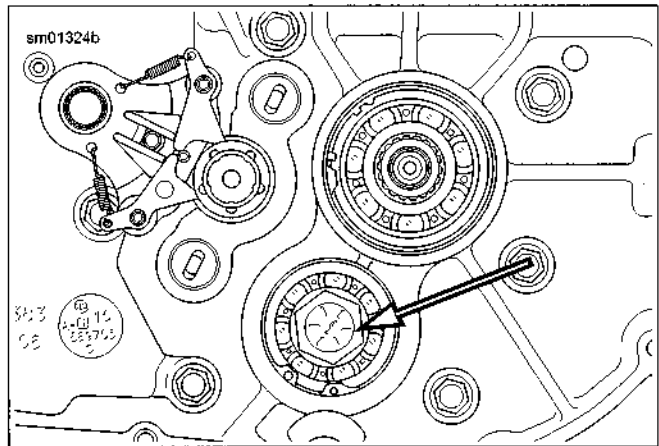

Figure 5-75. Countershaft Retaining Screw
3. See Figure 5-75. Apply several drops of **LOCTITE 262 HIGH STRENGTH THREADLOCKER AND SEALANT (red)** to last few threads of countershaft retaining screw. Thread screw into end of shaft.